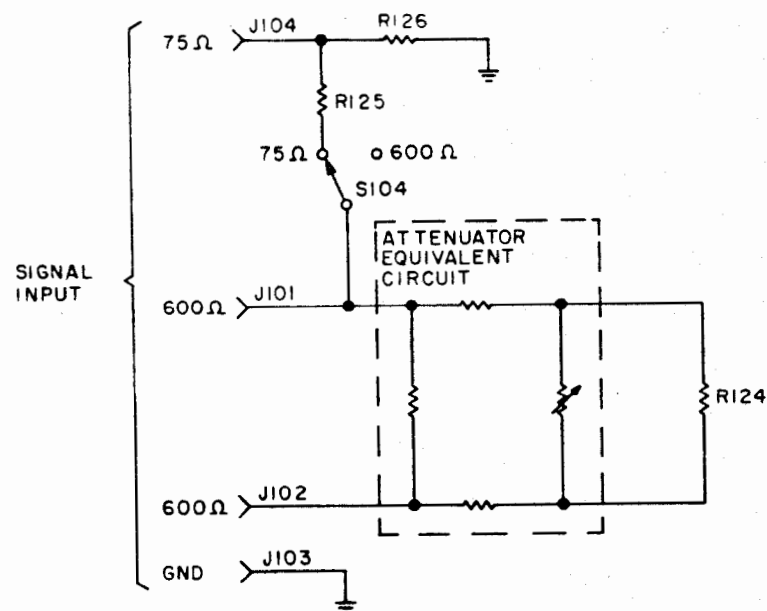
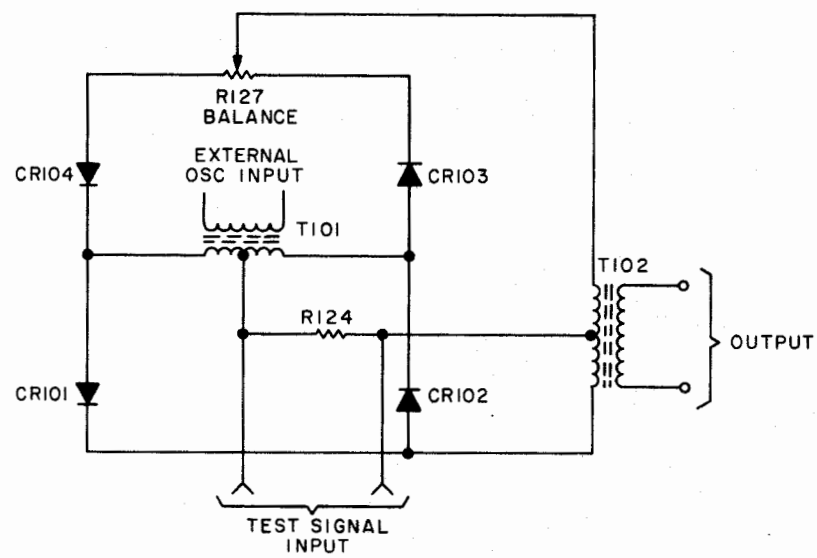

Figure 4-2. Input Circuit, Simplified Schematic Diagram
Figure 4-3. Mixer Circuit, Simplified Schematic Diagram
a. **ATTENUATOR-MIXER.** - The 600-ohm test-signal input, either balanced or unbalanced, is applied to the attenuator (figure 4-2). Effectively the attenuator is a variable resistor that establishes the desired input-signal, voltage level. The setting of INPUT ATTENUATOR switches S101, S102 and S103 determines the circuit resistance, hence the attenuation. The attenuator output is developed across resistor R124.
(1) The 75-ohm test-signal input is connected across an impedance-matching circuit consisting of R125 and L26. The output of this circuit is then applied to the attenuator. The operation of the attenuator is identical to that described in paragraph 4.2a, above.
(2) The test-signal input is mixed with the external oscillator signal as shown in figure 4-3. The test signal, developed across resistor R124, (paragraph 4-2a (1)), modulates the external oscillator signal developed at the input of T101. The BALANCE control, R127, adjusts the amplitude of the test signal. The modulation causes beat frequencies to be developed in output transformer T102. The external oscillator frequency is adjusted so that one of the beat frequencies will be 2.5 megacycles.